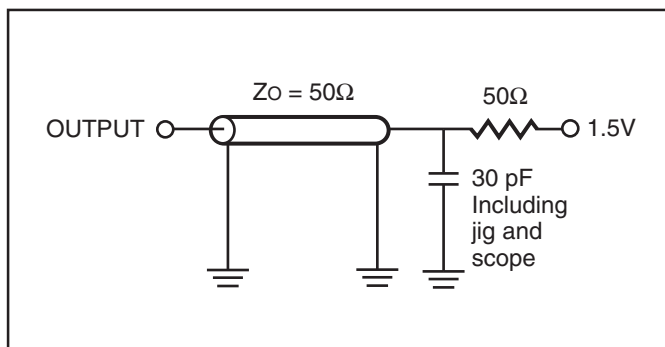

Figure 1.
- Test conditions assume signal transition times of 5 ns or less, timing reference levels of 0.9V/1.5V, input pulse levels of 0.4 to VDD-0.2V/0.4V to VDD-0.3V and output loading specified in Figure 1.
1. Test conditions assume signal transition times of 5 ns or less, timing reference levels of 0.9V/1.5V, input pulse levels of 0.4 to VDD-0.2V/0.4V to VDD-0.3V and output loading specified in Figure 1.